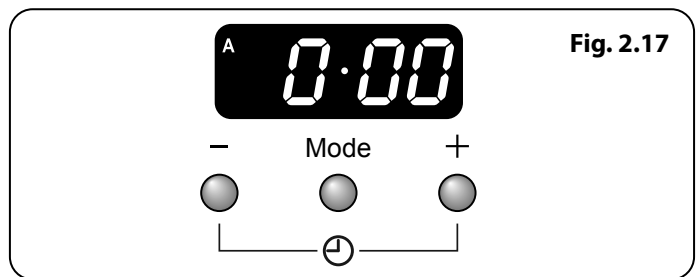

Fig. 2.17
1. The LCD clock is shown in (Fig. 2.17). Once the cooker is connected and switched on, the [A] symbol flashes in the display.